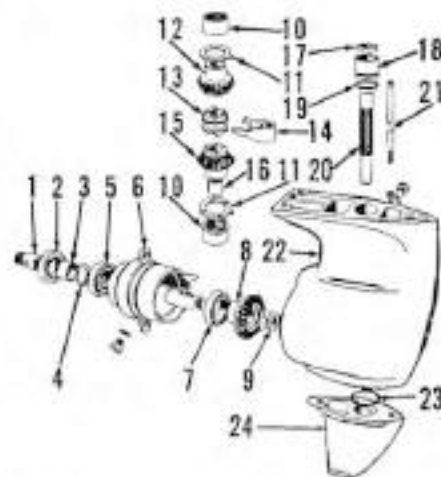
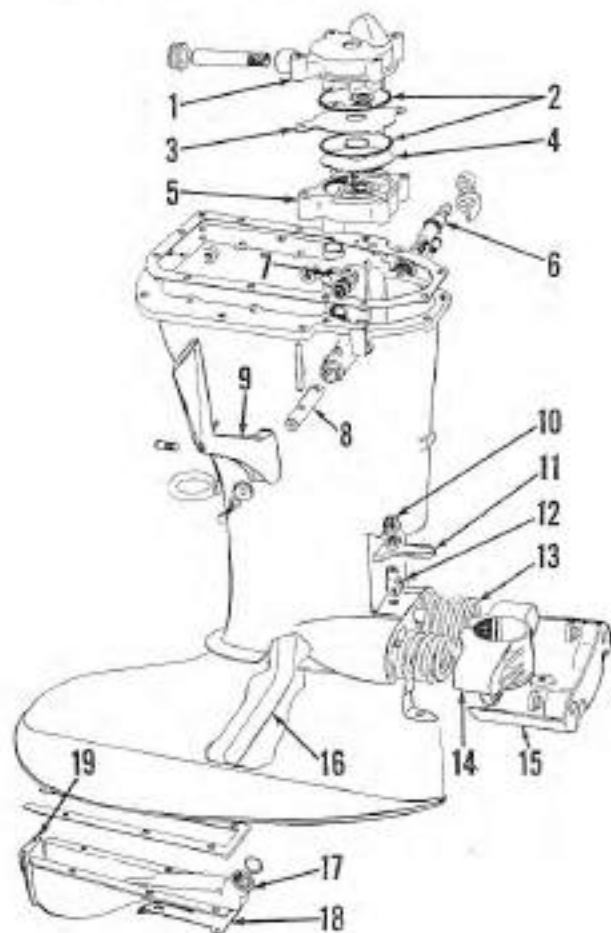
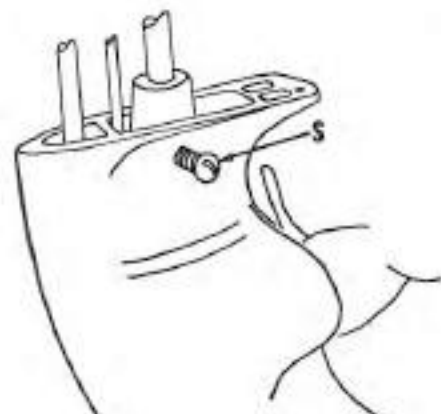

Fig. Mc138 — Exploded view of gearcase housing used on early two cylinder motors.
Fig. Mc139 — Lower motor housing and associated parts used on early models.
Fig. Mc140 — To retain the driveshaft in gearcase when separating the lower unit, thread a screw (5) in vent plug hole as shown.
Figs. Mc138 through Mc150 as a guide when overhauling the lower unit. Refer also to the instructions given in the appropriate following paragraphs.
40 Horsepower Models Before 1960: Refer to Figs. Mc138 and Mc139. To renew or service the propeller shaft, gear or bearings, first drain the lubricant and remove the cap screws retaining the bearing housing (6—Fig. Mc138) to the gearcase housing (22); then, remove the propeller shaft, gear, bearings and bearing housing as a unit. To disassemble the unit, remove the gear nut (9), gear (8) and Woodruff key; then press the shaft rearward out of gear housing. Seal (2) will be removed with shaft. When reassembling, tighten the nut (9) all the way; then back off until shaft turns with only a slight drag. Lock the nut in place by bending up a section of the washer.
To detach the gearcase housing from the lower motor housing, first drain the gearcase and disconnect shift rod coupling (12—Fig. Mc139). Remove the stud nut and two cap screws retaining the gearcase housing to lower motor housing. To make sure the driveshaft is removed with gearcase and gears, install a screw (5—Fig. Mc140) in vent plug hole and tighten screw up against the driveshaft. Carefully withdraw the gearcase housing and driveshaft assembly. The forward gear (12—Fig. Mc138), reverse gear (15), clutch dog (13) and associated parts can be removed after removing the propeller shaft assembly as previously outlined, then withdrawing the driveshaft. Forward and reverse gears are marked "T" and "R" for proper identification and assembly. Shifter fork (14) may be removed by unscrewing the shift rod (21). Assembly can be facilitated by counting the number of turns shift rod is threaded into fork.